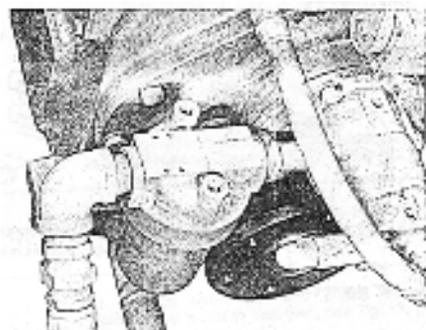

Fig. 20. Installation of Oil Filter. Flow Arrow on Filter must point toward Pump.
2. Apply joint compound to threads and install pipe nipples, bushing and oil filter to oil pump. **CAUTION: FLOW ARROW ON FILTER MUST POINT TOWARD PUMP. SEE FIG. 20.**